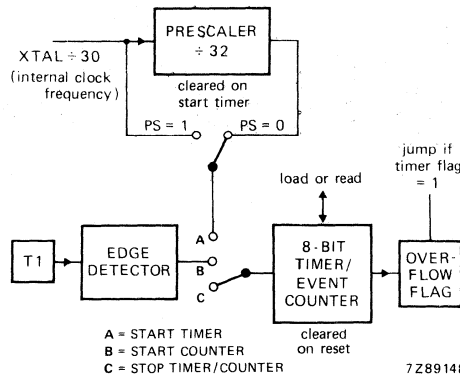

Fig. 18 Timer/event counter.
**Timer/event counter** (see Fig. 18)